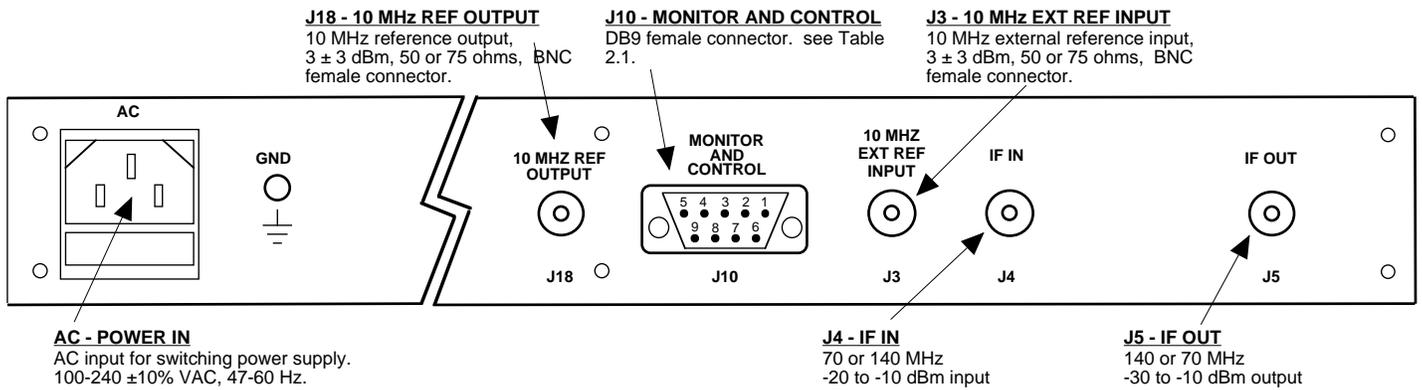

FIGURE 2.1 2083-714A Rear Panel I/O's
2.2 Rear Panel Input/Output Signals - Figure 2.1 shows the input and output connectors on the rear panel.
1. Connect a -10 dBm to -20 dBm signal to IF IN, J4 (Figure 2.1).